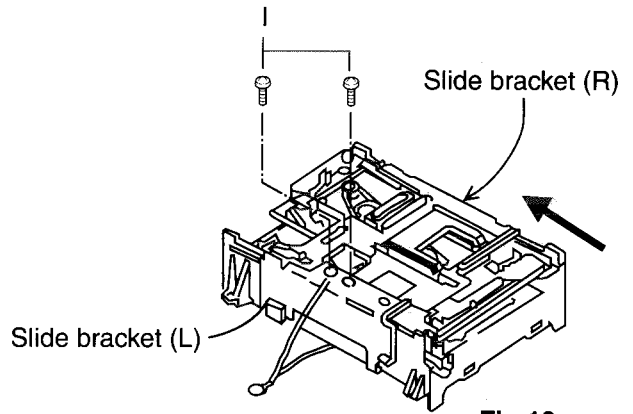

Fig.10
■ **Removing the slide bracket** (see Fig.10)
2. Remove the two screws I attaching the slide bracket (L).
3. Remove the slide bracket (L), then remove the slide bracket (R).